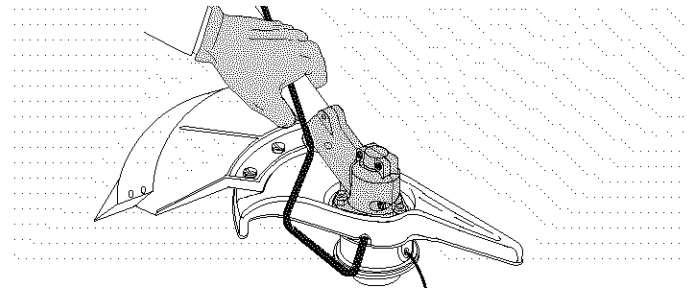

Fig. 6
2. Hold the locking rod in place by grasping it next to the boom of the unit (Fig. 6).